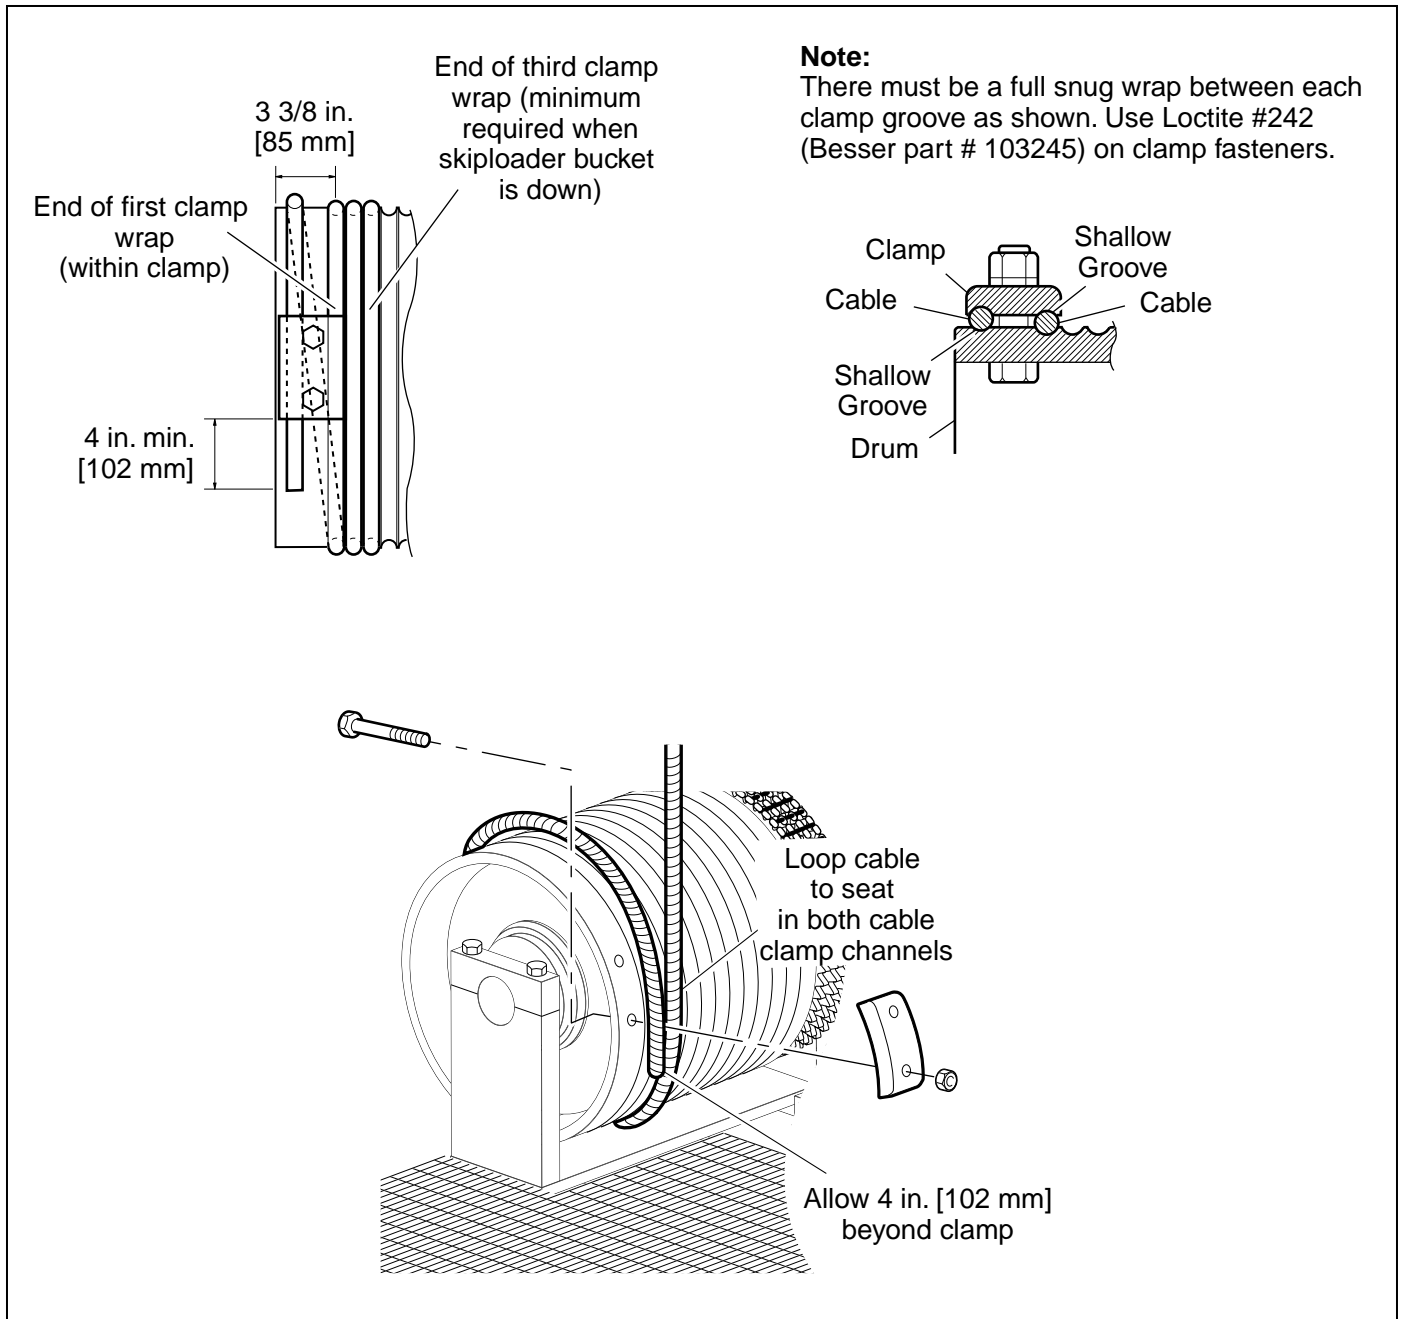

Figure 3.6 Install Cable to Drum
3. Wrap the cable twice around cable drum on the drive assembly and thread it under the clamp on the drum. See Figure 3.6.
5. Confirm that the cable is wrapped in the direction shown in Figure 3.6, and make sure that the end of the cable projects at least 4 inches [102 mm] from clamp.